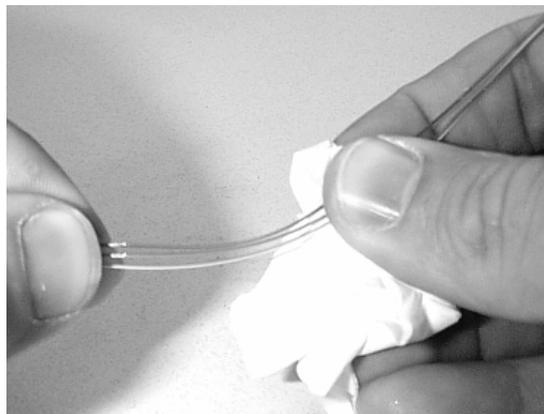

Figure 19 - Clean the fibers with isopropyl alcohol.
4.22 Clean the exposed fibers with a lint free wipe and isopropyl alcohol (Figure 19). The cable is now ready for testing and/or splicing.